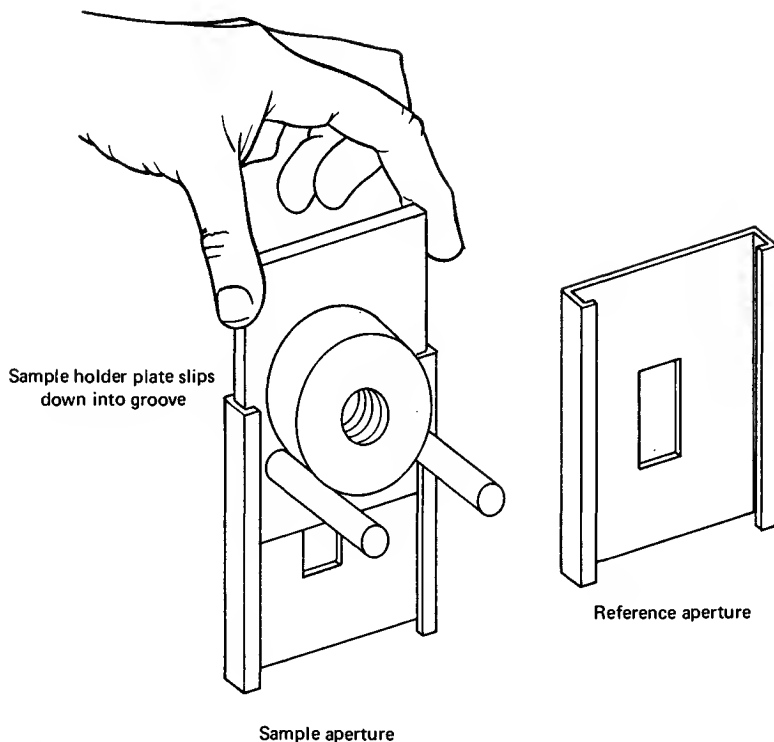

Fig. 126 Putting sample holders with samples into the beam.
11. Put the card in the **sample beam aperture** (Fig. 126). The KBr win-
4. Put your sample in the sample beam. Slide the sample holder with your sample into the sample beam aperture (Fig. 126).